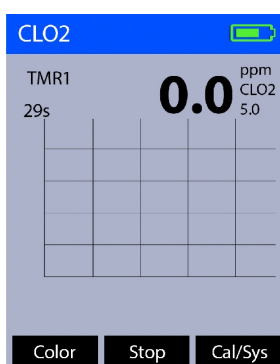

Figure 6.
6. Press **TMR1** () to start the method timer (Figure 6).